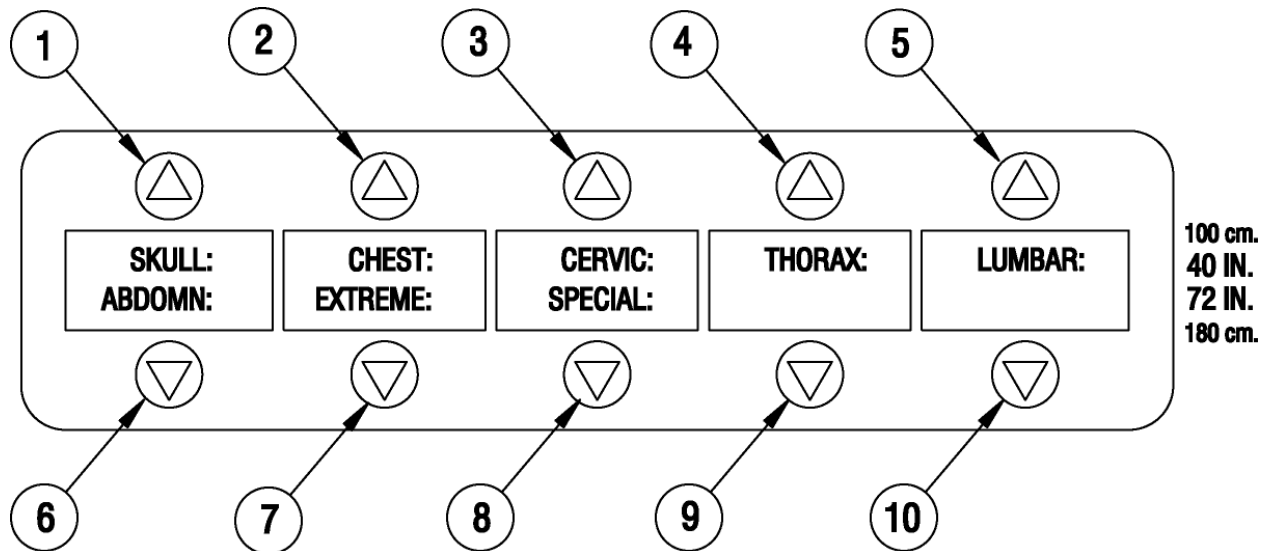

Figure 7-1 Auto-Tech Region of Interest Menu
For the purpose of this description, the LCD display is divided into 10 sectors as shown in Figure 7-1, below. Each sector is controlled by the corresponding sector key located above or below that sector.
2. Select the region of interest (ROI) where the technique is (to be) stored by pressing the corresponding sector key. For example, to edit the LUMBAR region in the main menu (see Figure 7-1), press sector key 5.